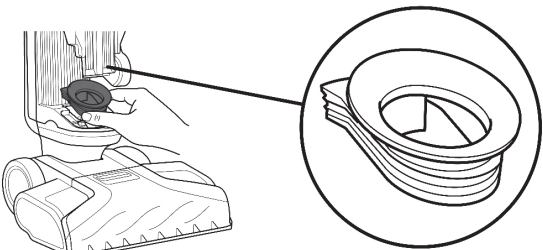

fig. 2
2. Be sure the rubber seal is seated in place under the dirty water tank (**fig. 2**).